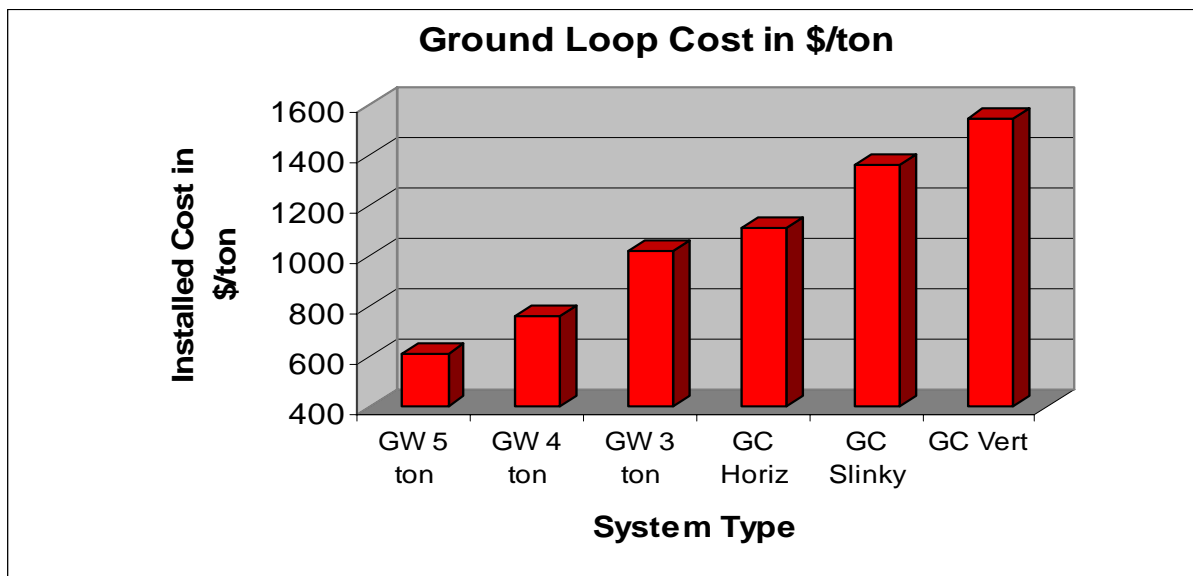

Figure 5
Figure 5 summarizes the cost of the ground loop portion of the system only. This could be considered the "outside" the home costs for the system. Vertical closed loop (GC Vert) installations tend to be the highest cost partly due to the high cost of the drilling equipment relative to backhoes or small excavators used in horizontal loop (GC Horiz, GC Slinky) installations. For groundwater systems (GW), the costs shown include the cost of a larger well pump, tank, piping to and from the house, and a 50' disposal well. For ground-coupled systems, the costs include the trenching or boring, pipe installation and headers up to the home. The decreasing cost for the open loop installations with increasing capacity occurs due the use of the same well for disposal of water from all system sizes. With the same cost for the disposal well, the cost per ton decreases with system size.